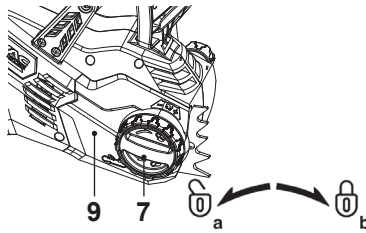

Fig. 1
2. Loosen the cover (9) by turning the locking wheel (7) anticlockwise (Fig. 1, a) and remove it.